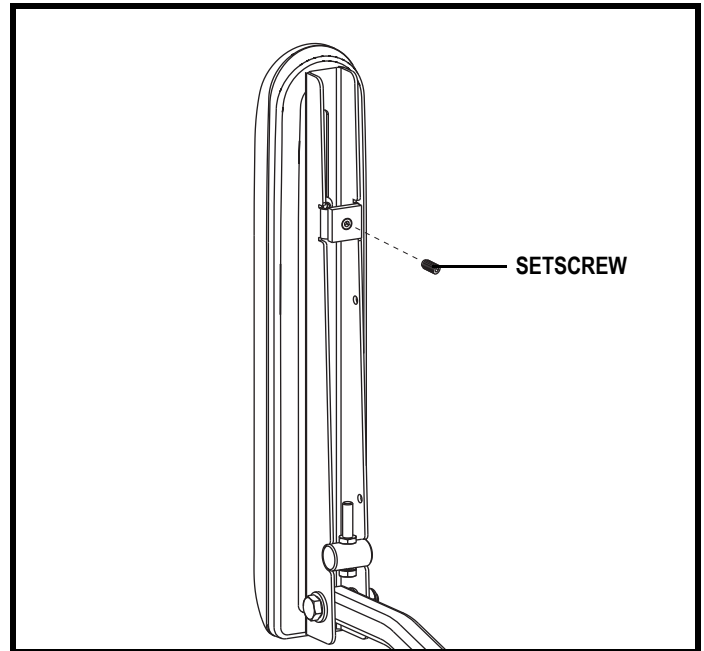

Figure 13. Underside of Armrest
2. Loosen the setscrew on the controller bracket. See **figure 13**.
5. Loosen the setscrew on the controller bracket. See **figure 13**.